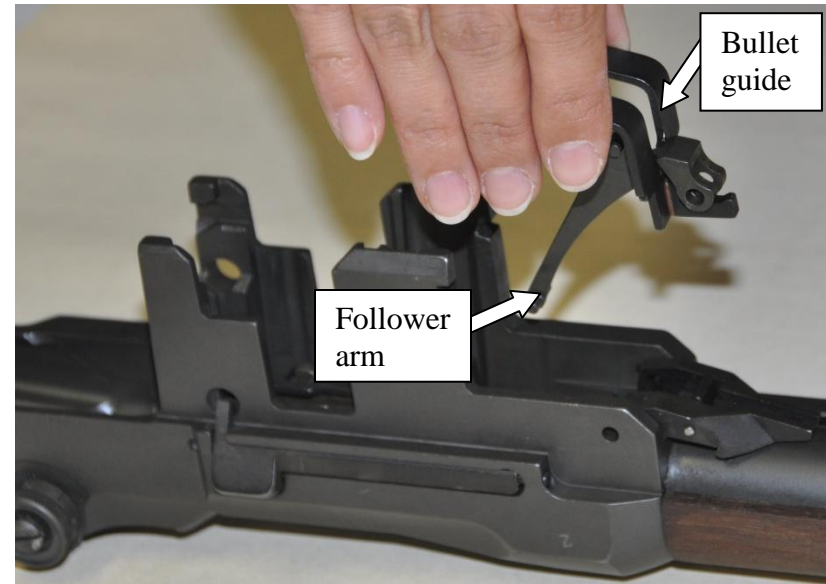
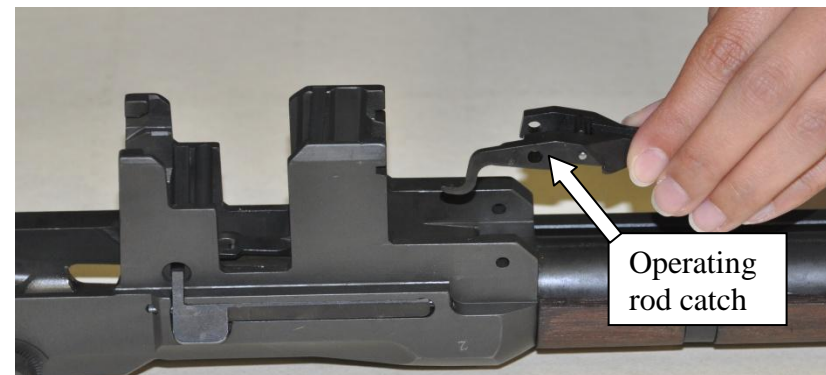

Figure 16. Bullet guide and follower arm removal
Figure 17. Operating rod catch removal
- 3) Grasp the bullet guide and follower arm and lift them out of the receiver (fig 16). Then lift the operating rod catch and lift it out of the receiver (fig 17).